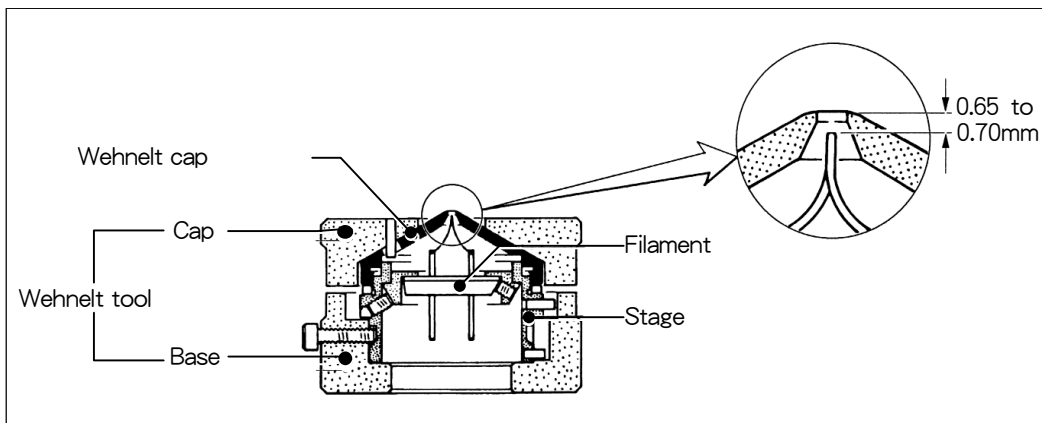

Fig. 6.10 Adjusting the Wehnelt cap
- ✍ If you have difficulty in taking the cap off, use the Wehnelt tool (Fig. 6.10).
1. Place the Wehnelt on the base of the Wehnelt tool as shown in Fig. 6.10, and put the cap of the tool over the Wehnelt so that the pin inside the cap of the tool meets the hole of the Wehnelt cap.
2. Follow the steps below to adjust the height of the Wehnelt (Fig. 6.10).